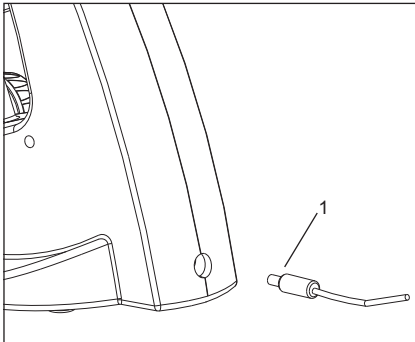

Fig. 6
The microscope must be charged for at least eight hours before initial use. To charge microscope, plug-in the adapter (1) in the input socket provided at rear of the microscope. See figure 6.